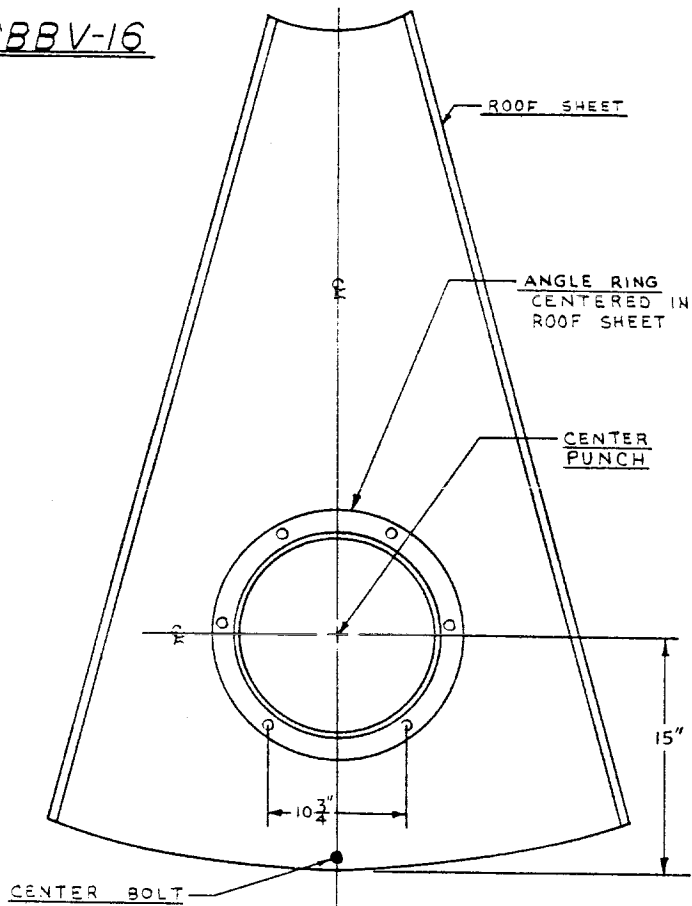

FIGURE 1
- a) To locate bin vent, measure up 15" from the center bolt in the roof sheet (see Figure 1). Center punch this point.